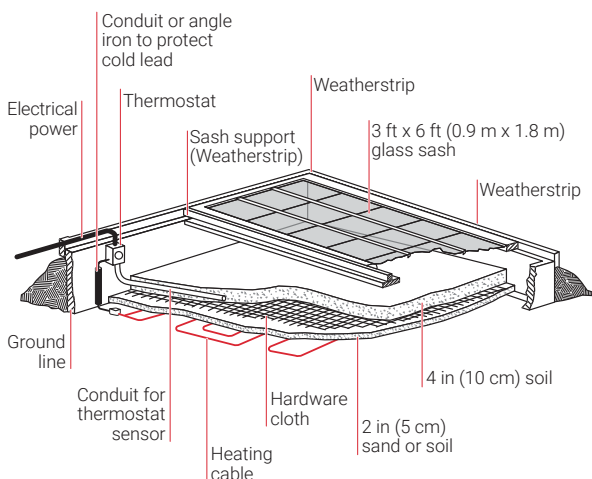

Figure 27: Typical soil heating installation
1. Ensure cold frame or hotbed can accept the heating cable without causing damage to the cable. If the cold frame or hotbed is existing, it will be necessary to remove 6 in (15 cm) of soil below the final intended soil level – refer to Figure 27
6. Install heating cable on subsoil layer; start with the heating cable cold lead close to the junction box or temperature controller (Figure 27). Install the cable in a serpentine manner at the specified cable spacing taking care not to damage the heating cable. If using a "B" configuration heating cable, finish with the opposite end of the cold lead back at the junction box. Closer spacing at the outside edges will help to provide more uniform heating.
12. Install the conduit for the soil temperature sensor; it should sit about 2 in (5 cm) above the hardware cloth. If necessary, place 2 in (5 cm) of soil, by hand, below the conduit to keep it elevated above the hardware cloth (see Figure 27 for details). Installing the temperature sensor in metal or plastic conduit will protect it from damage by garden tools. Before covering with soil, check that the temperature sensor will fit past the bend in the conduit.